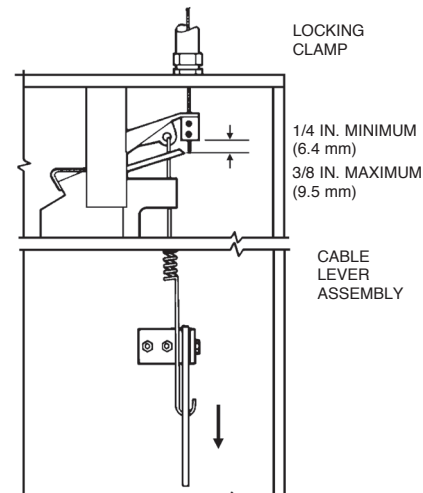

FIGURE 5-36
16. Lower tension lever to **Down** position and inspect the base of the wire rope locking clamp to make certain that there is a minimum of 1/4 in. (6.4 mm) and a maximum of 3/8 in. (9.5 mm) clearance between the base of the trip hammer locking clamp assembly and the cable lever assembly. See Figure 5-36. If clearance is not between 1/4 in. (6.4 mm) or 3/8 in. (9.5 mm), raise tension lever, loosen set screws on locking clamp and repeat Steps 15 and 16.